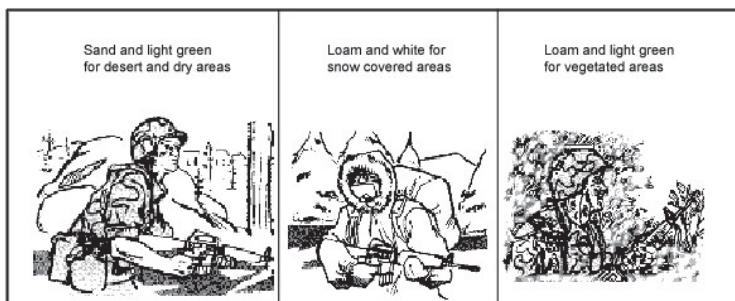

Figure 052-COM-1361-1.
e. Blend colors with the surroundings or, at a minimum, ensure that objects do not contrast with the background (figure 052-COM-1361-1).